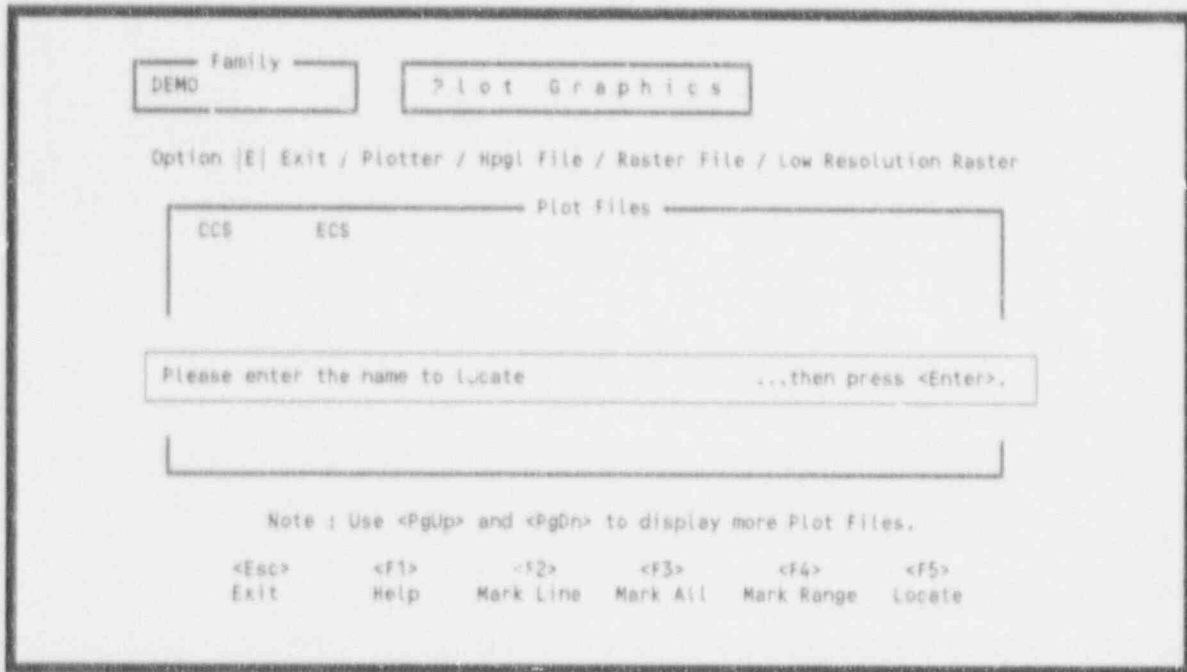

Figure 54. Locate a specific file prompt.
- <F5> - Allows you to locate a specific file for further processing. When you invoke this function, Figure 54 will be displayed. Enter the file name to locate and press <Enter>. The specified file will be highlighted. If the file name does not exist, then the next name in alphabetical order will be highlighted.